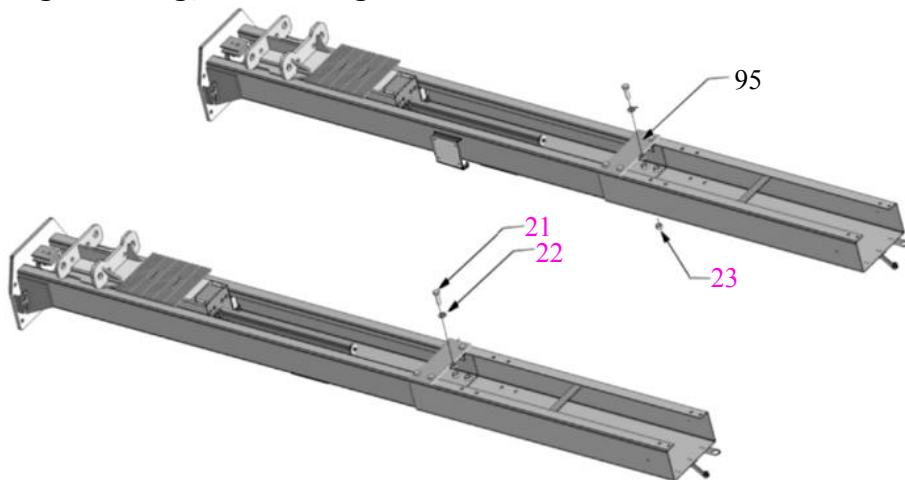

Fig. 19 High setting
1. High Setting, connecting the outer columns with the lower hole (**See Fig. 19**).